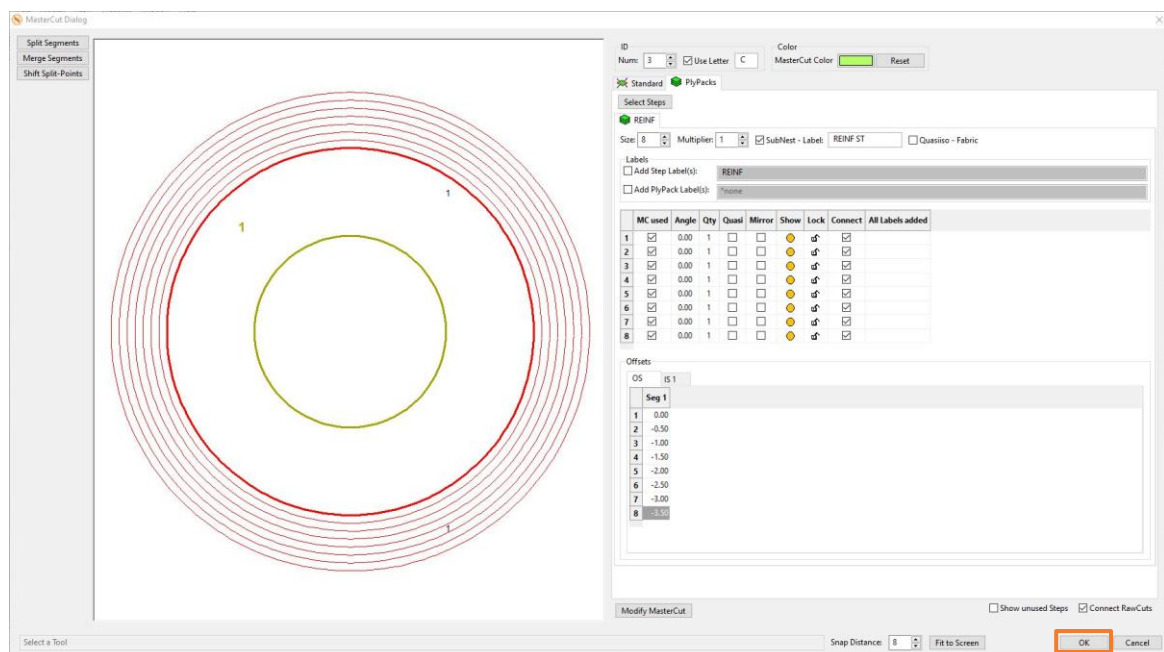

Figure 197
11. Figure 197 shows the resulting cuts. With this tool you can very easily generate PlyPacks. Click **OK** to confirm.